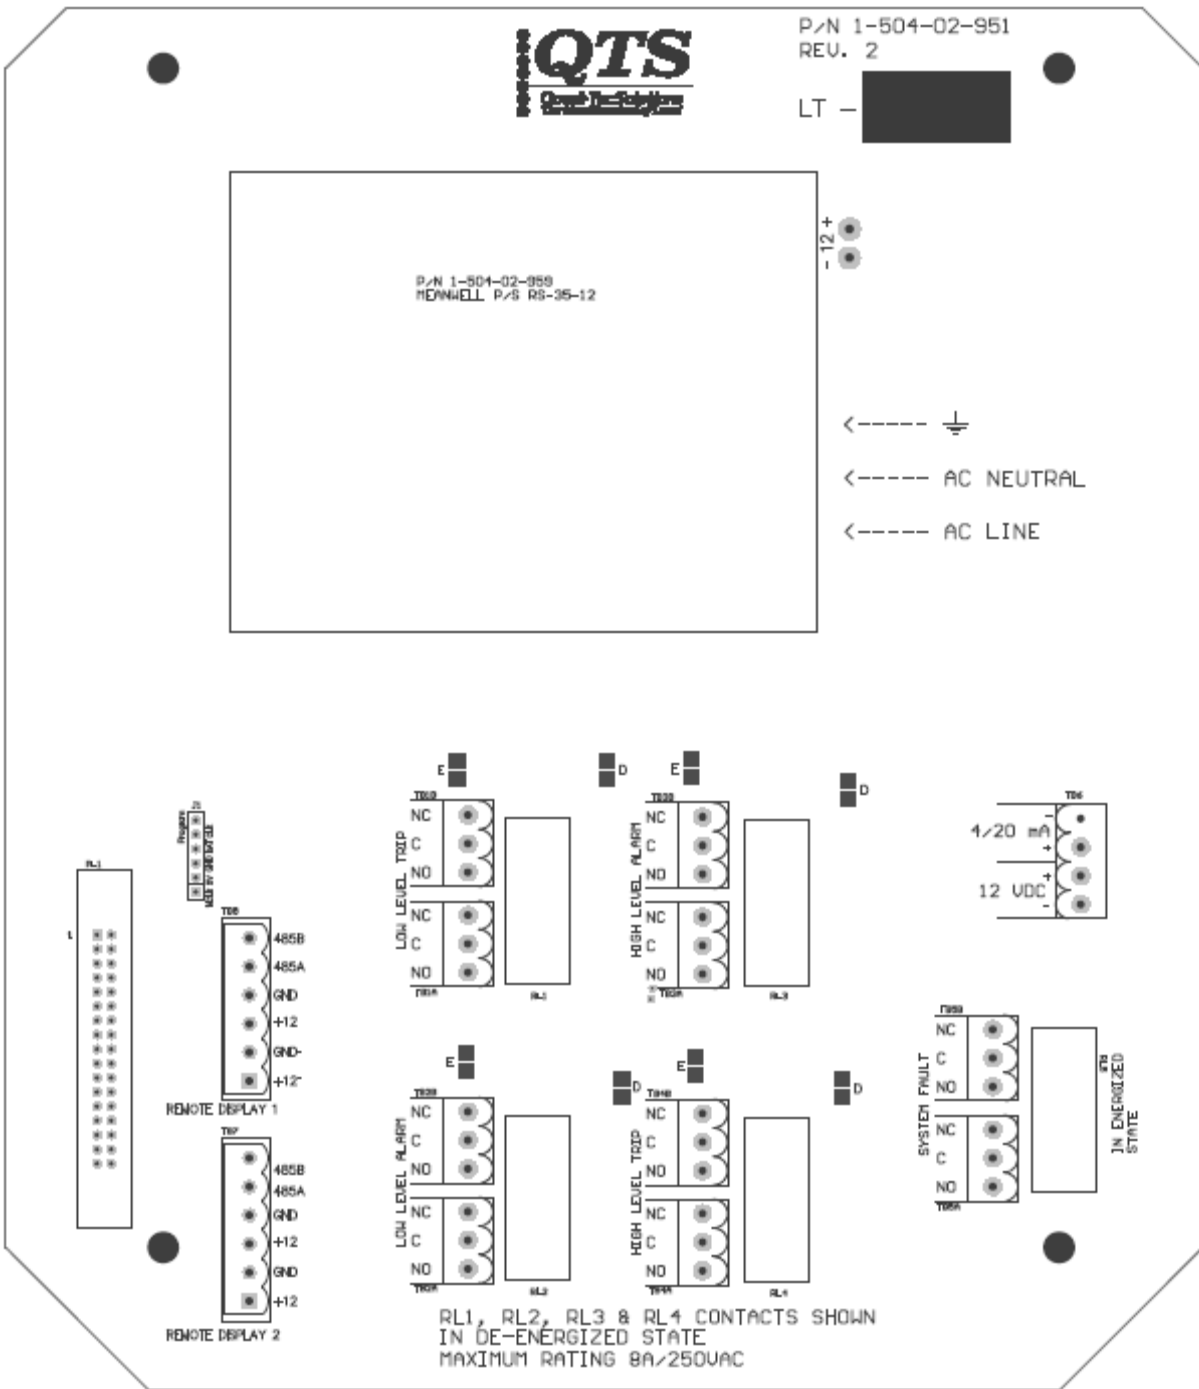

Figure 3.4.1
- 7) Probe Assignment: Jump "A" to set probe to normally Wet state. (See Part 3.3 and Figure 3.4.1)